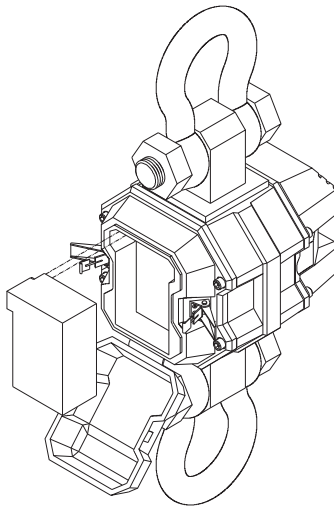

Figure 1-3 Remove Battery
1. Remove the battery from the *MSI-4260*. See Figure 1-3.